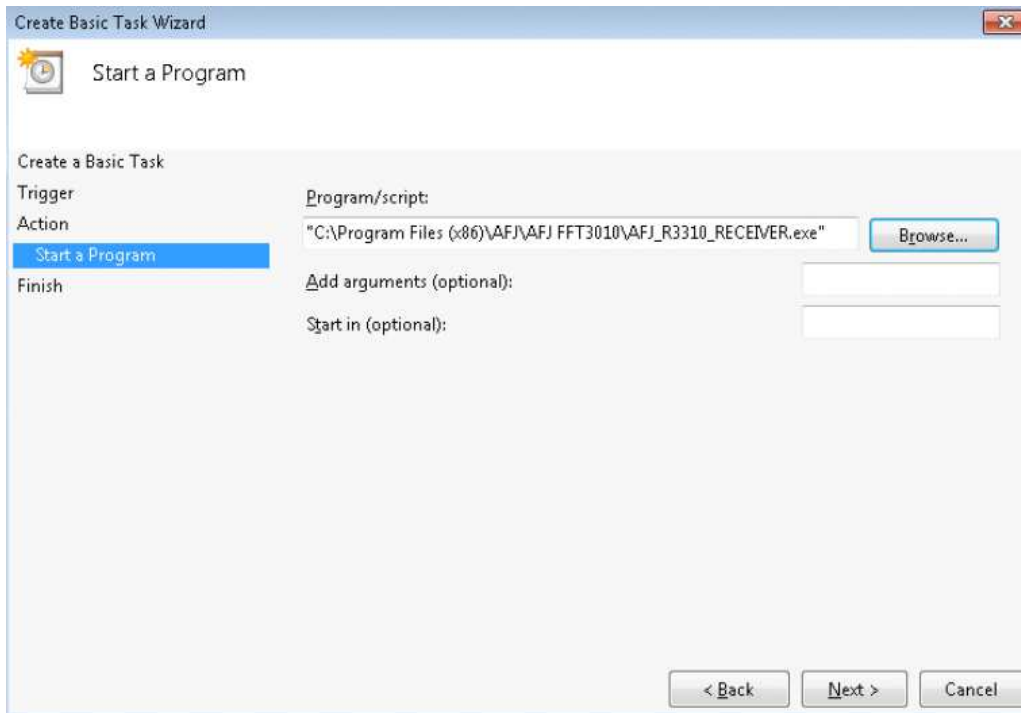

Fig. C.39: Selection of the required application
STEP 8 – In *Create Basic Task Wizard* window after the selection of the required application please click *Next* (Fig. C.39).